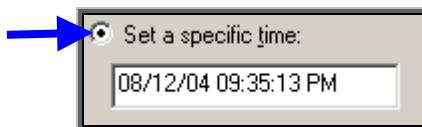

Figure-5.7.4
- ◆ The bottom window lets user to enter a specific date and time (Figure-5.7.4).
- ◆ Click in the circle beside the “**Set a specific time**” option to specify the selection. “**The Set from this computer's time**” option is the default selection, so user usually must change options. When Set a specific time is active, the field appears as shown in Figure-5.7.4: